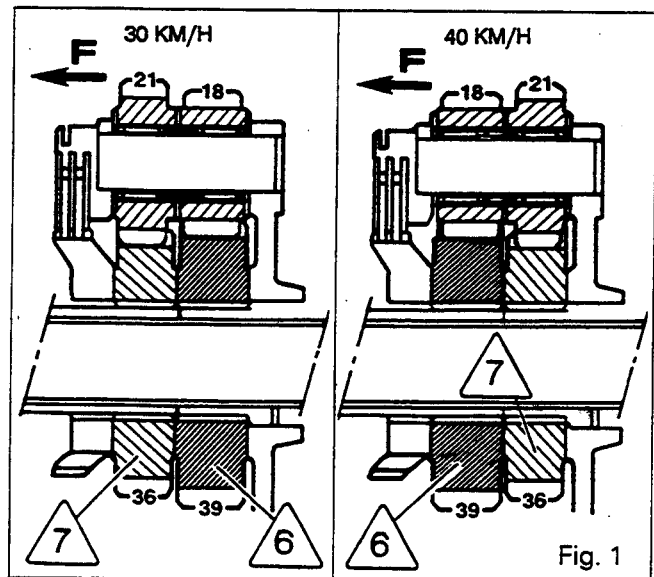

Fig. 1
- 30 km/h or 40 km/h version (Fig.1)